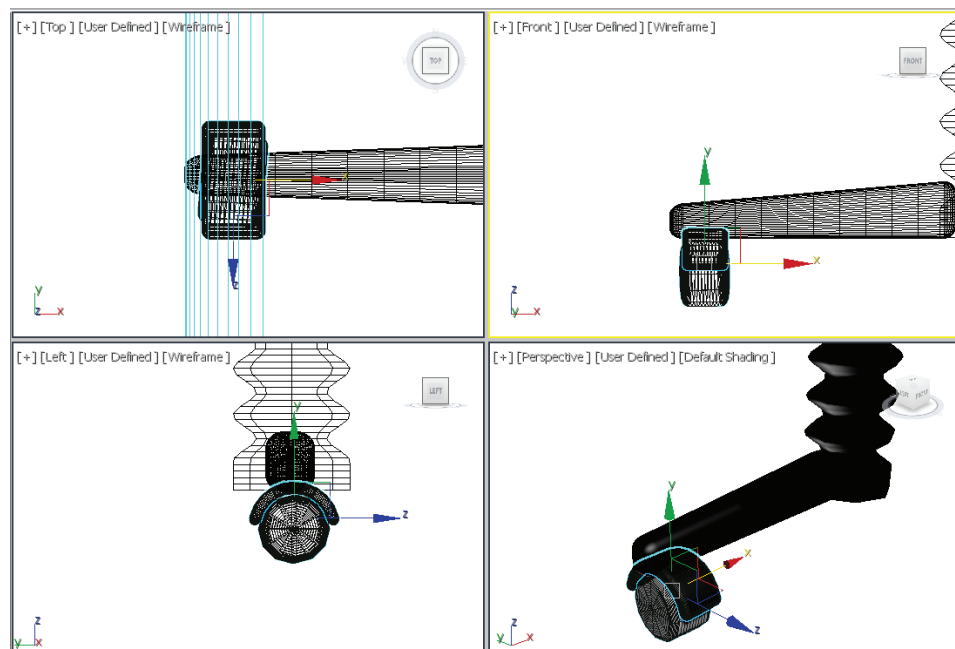

Figure 3-45 Alignment of roller01 with leg01 in viewports
17. Using the **Select and Move** and **Select and Rotate** tools, align roller01 with leg01 in all viewports, as shown in Figure 3-45.